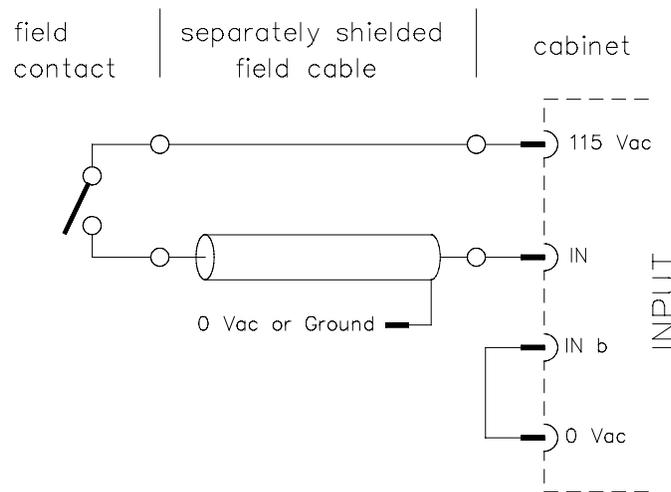

Figure 4 Field cable with separately shielded wires
The field cable length limit can be eliminated by using field cables with wires that are shielded separately (see Figure 4).
1. Use the method of Figure 4 and leave the second wire of each pair unconnected, or